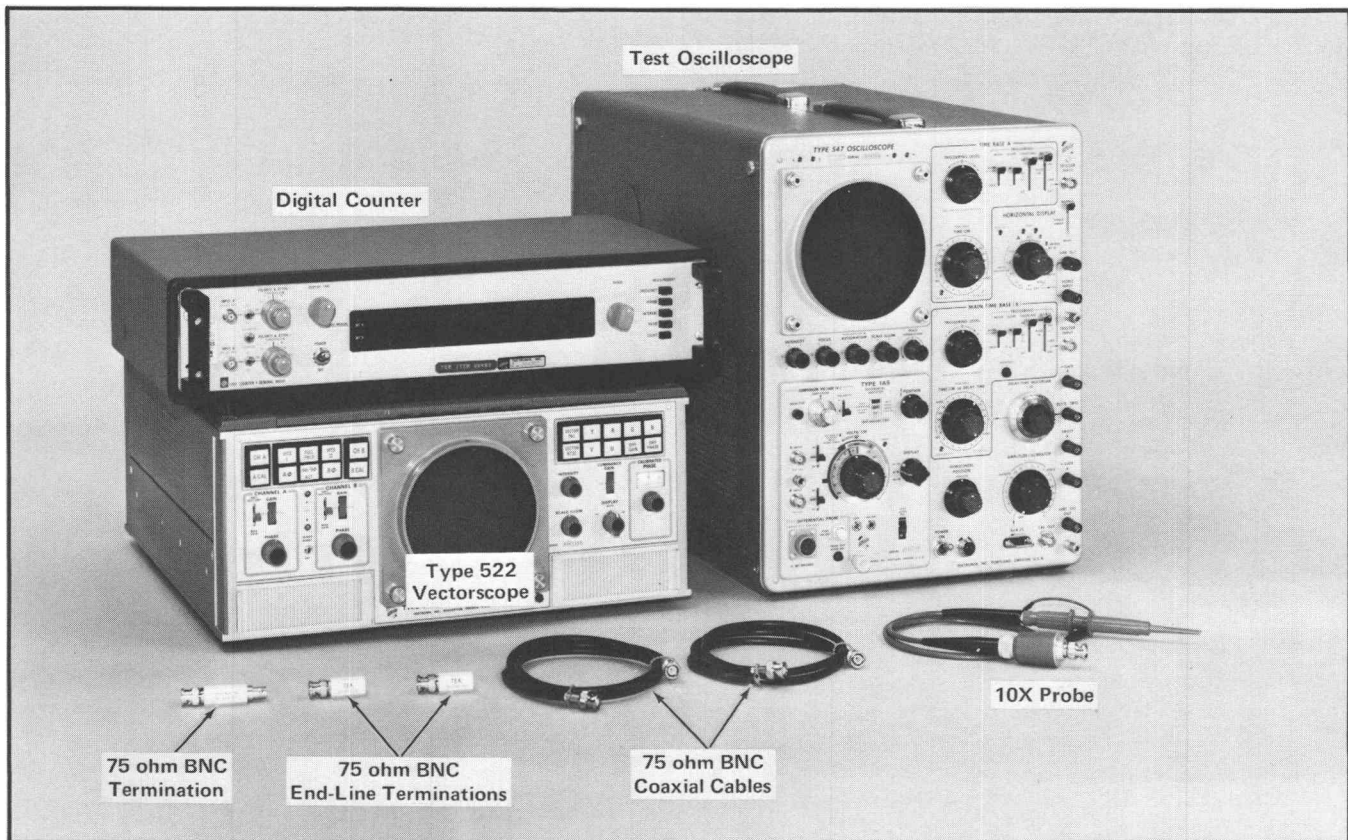

Fig. 5-3. Test equipment required for steps 3 through 5.
a. Test equipment is shown in Fig. 5-3. To determine the Type 142 and test oscilloscope control settings, first refer to the partial list that precedes this step and then, for the remaining controls, refer to the list that follows Fig. 5-1.